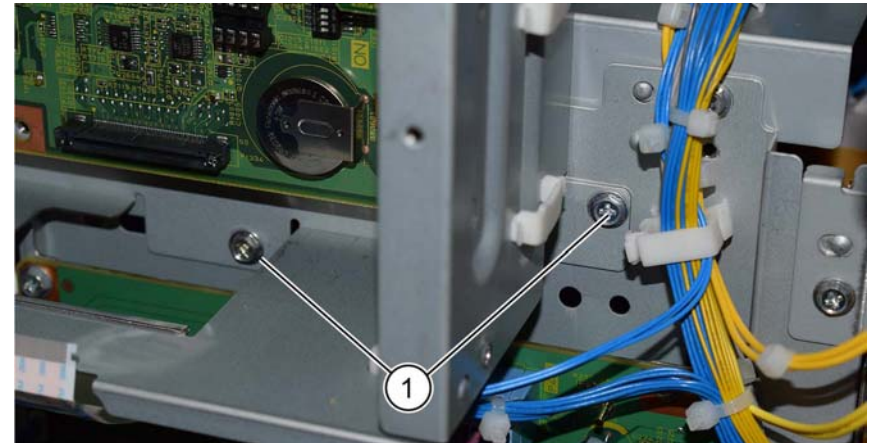

Figure 13 Lower left screws
16. Remove two screws (1), Figure 13.